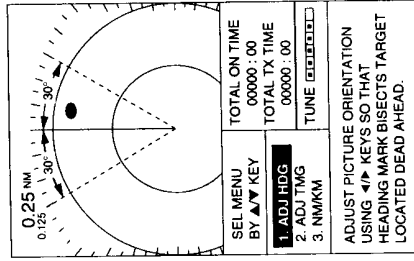

Figure 19 Display for adjustment of heading
- Select ADJ HDG. Your display should now look something like the one shown in Figure 19.